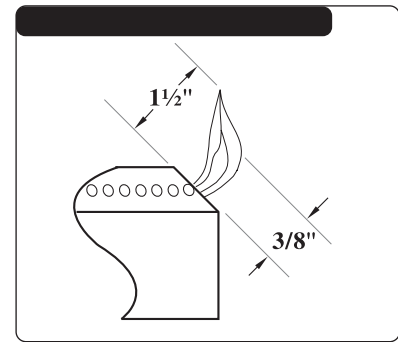

FIG.12 Low Setting Adjustment
4. While holding the valve shaft with pliers, insert a thin, flat tipped screwdriver into the shaft and while viewing the burner adjust to a minimum stable flame (Fig. 12).